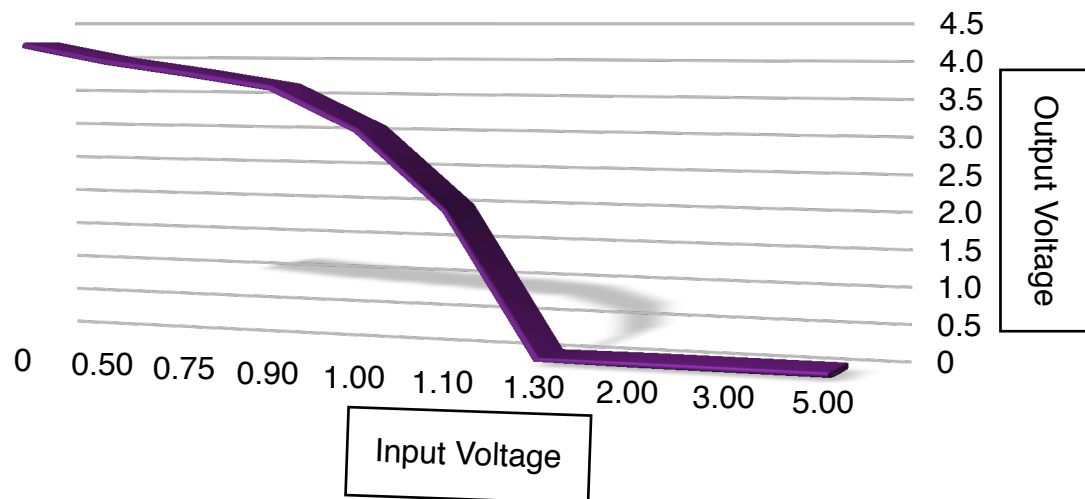

Figure 1: Output vs. Input For A 74LS00 With One Input Grounded
Next, voltage measurements were taken at several input voltages to see what the output voltage was at that input voltage. One of the inputs of the 74LS02 chip was grounded. This allowed the other input to be adjustable between 0 and +5 Volts by using a variable resistor. The results from these tests are shown in Table 3. The voltage characteristic curve is shown in Figure 1.
As shown in Table 3 and Figure 1, the output had a high of 4.19 Volts. The output decreased slowly at first as the input voltage increased, but shortly after the input voltage increased passed one (1), the output voltage decreased rapidly, dropping to a steady output of 0.11 Volts.